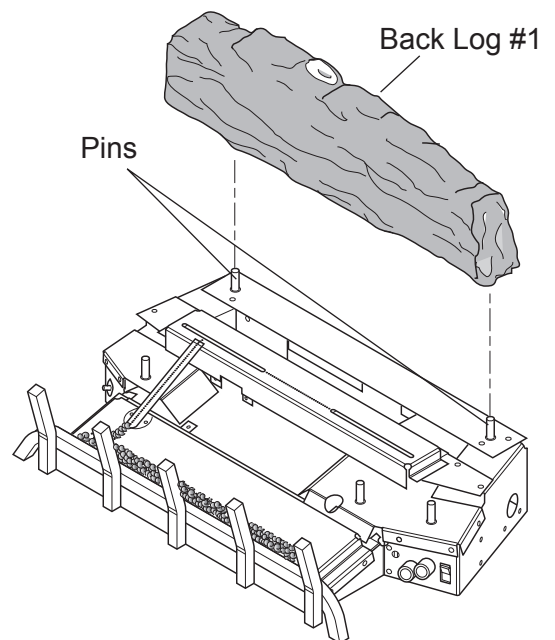

Figure 26 - Installing Back Log
1. Install back log (#1) on two pins located near the back of base. Check log position and stability. *See Figure 26.*